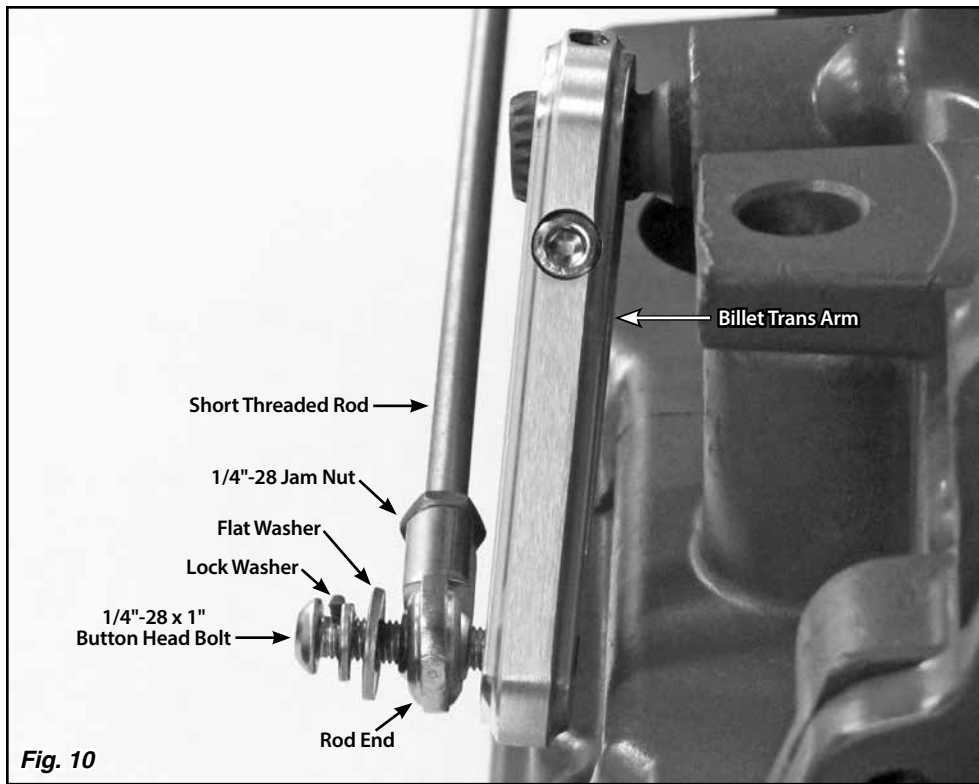

Fig. 10
Step 14: Verify that both 1/4"-28 jam nuts are on the short threaded rod. Thread one end of the short threaded rod into the rod end on the linkage arm, and install a rod end onto the opposite end of the short threaded rod. Attach that rod end to the outside of the billet trans arm using the 1/4"-28 x 1" button head bolt with a lock washer and flat washer as shown in Fig. 10.